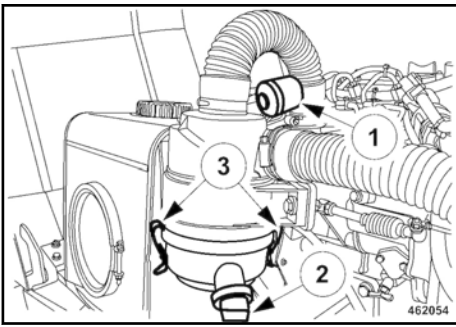

Fig. 123
Service of the air filter is due when the red piston of the filter service indicator (1) ↗ Fig. 123 reaches into the transparent window.